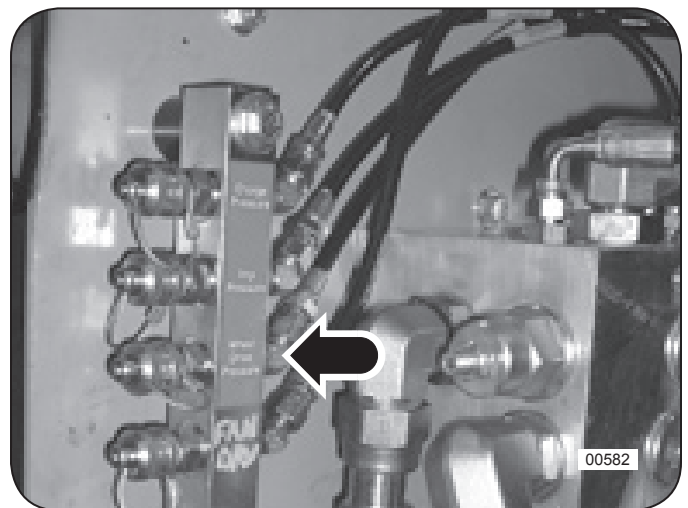

Figure 4: Wheel Drive Pump Pressure Gauge Port Tap
3. Connect the 10,000 psi pressure gauge, with the quick-couple adapter attached, to the gauge port tap provided on the centralized pressure check manifold. See Figure 4.